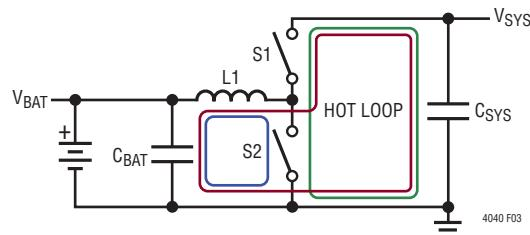

Figure 3. Hot-Loop Illustration for the LTC4040 Switching Converter
- Even though the converter can operate in both step-down (buck) and step-up (boost) mode, there is only one hot-loop containing high-frequency switching currents. The simplified diagram in Figure 3 can be used to explain the hot-loop in the LTC4040 switching converter. Current follows the blue loop when switch S2 (NMOS) is closed and the red loop when switch S1 (PMOS) is closed. So it is evident that the current in the C_{BAT} capacitor is continuous whereas the C_{SYS} current is discontinuous forming a hot loop with V_{SYS} pins and GND as indicated by the green loop. Since the amount of EMI is directly proportional to the area of this loop, the V_{SYS} capacitor, prioritized over all else, should be placed as close to the V_{SYS} pins as possible and the ground side of the capacitor should return to the ground plane through an array of vias.